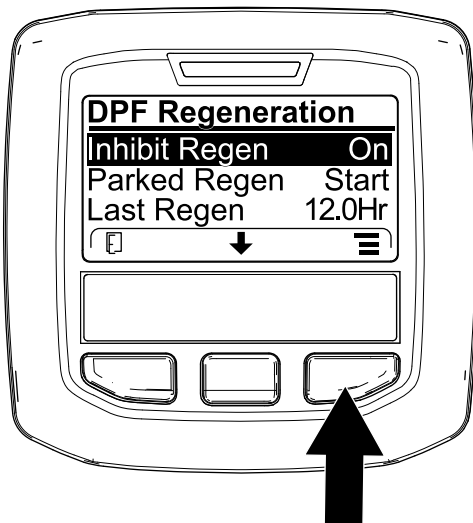
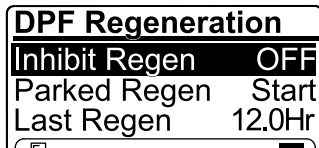

Figure 44
Figure 45
option, and press the right button to select the Inhibit Regen entry (Figure 44).
- Press the right button to change the inhibit regeneration setting from On to Off (Figure 44) or from Off to On (Figure 45).